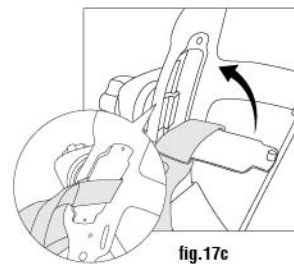

fig.17c
Step 3 : Clip buckle into original place (See fig.17c).